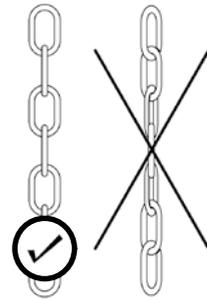

Figure 8
- the chain for emergency control should never be twisted (fig. 8), otherwise, failures in the operation of the emergency manual control unit may occur.